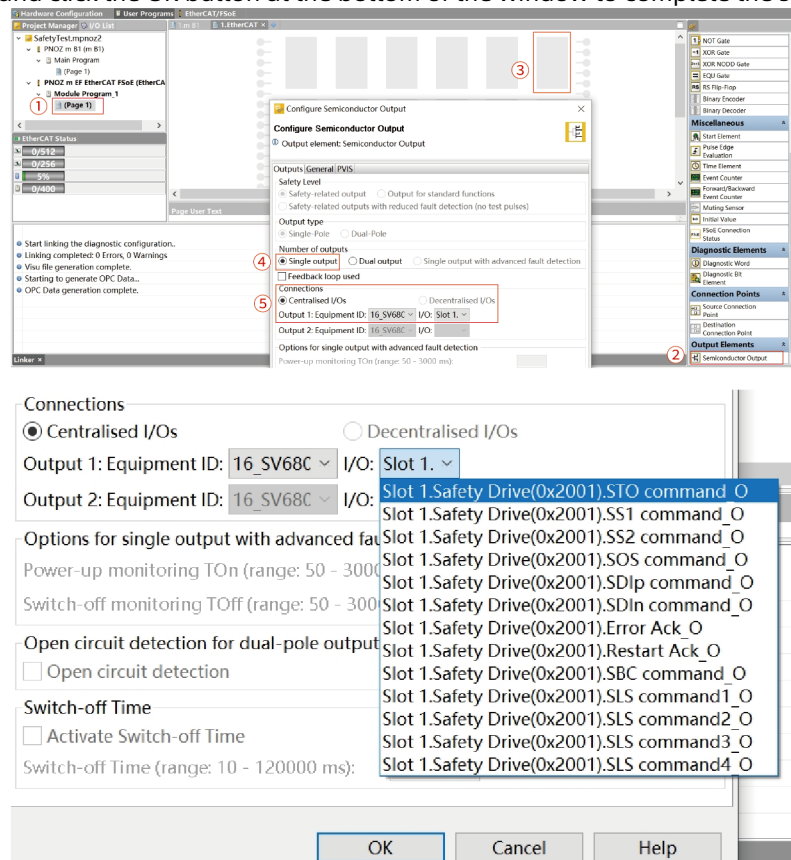

Figure 14-33 Configuring semiconductor output
- c. Double-click the module program page in the project manager, drag the semiconductor output block into the rightmost blank rectangular slot, and select the output quantity and output connection, as shown in “Figure 14-33 Configuring semiconductor output” on page 649. The output device ID is 1_SV680S1Axis_02002, then select the safety function command to be configured, and click the OK button at the bottom of the window to complete the setting.